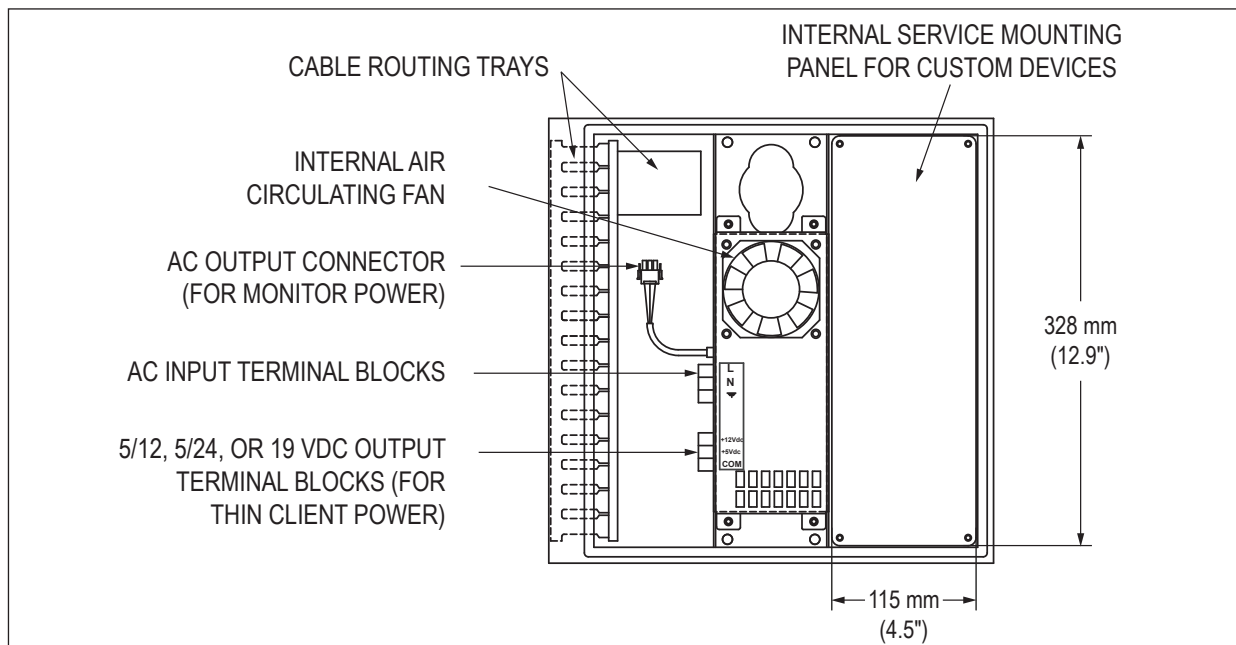

FIGURE 1 – INSIDE VIEW OF ENCLOSURE
1. Refer to Figure 1. Install the assembly inside the enclosure by removing and reinstalling the four 8 mm (5/16") hex nuts that come installed in the enclosure.
2. Refer to Figure 1. Remove caps on Cable Routing Trays.
3. Refer to Figure 1. With power disconnected, hook up incoming power from mains supply to the AC input terminal blocks ("L" is black; "N" is white). Securely tighten terminal block screws.
5. Refer to Figure 1. Hook up AC power to the monitor using an HIS CCAC- \_\_ \_ cable (not included). Disconnect and discard the end of the cable with the NA plug. Plug the C-13 connector end of the cable into the power input port on the rear of the monitor. Route the cable in through the hole in the pedestal to the Thin Client / PC enclosure. Connect the Molex connector end of the cable to the AC output connector. Route cables through Cable Routing Trays.
- a. For Thin Clients or PCs with a power requirement other than what is provided, or it is undesirable to cut the DC power cable, use the device manufacturer's brick power supply. Install the brick power supply to the internal service panel (shown in Figure 1) and connect the AC power side to the AC power input terminal block using HIS part number MK-1OUTLET-xx. After completing the installation, continue to step 10.
9. Refer to Figure 1. Hook the DC cable wires to the terminal block in the correct polarity [i.e. ground to COM (-)]. Connect the other wire to the appropriate 5, 12, 19, or 24 VDC terminal.